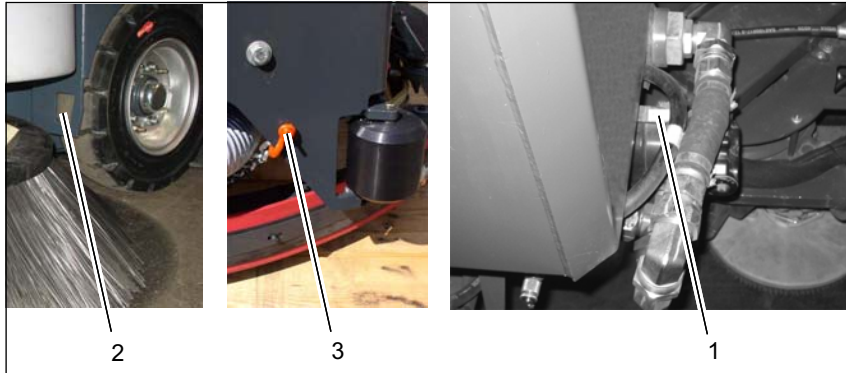

Fig.2
The front sides of both wheel housings are equipped with an opening (Fig. 2/2) for tying down the front part of the machine. Secure the rear part of the machine with a hook or an eye (Fig. 2/3).
3. Turn lever (Fig. 2/1) of the bypass valve clockwise by 90°.